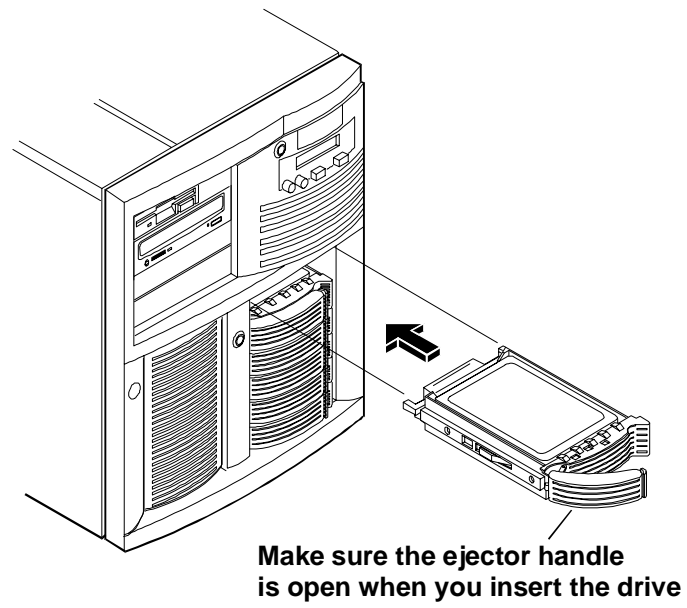

Figure 6-5. Installing a Drive in the HP NetServer LH 3
4. Slide the drive slowly into the location until it stops. (See Figures 6-5 and 6-6).